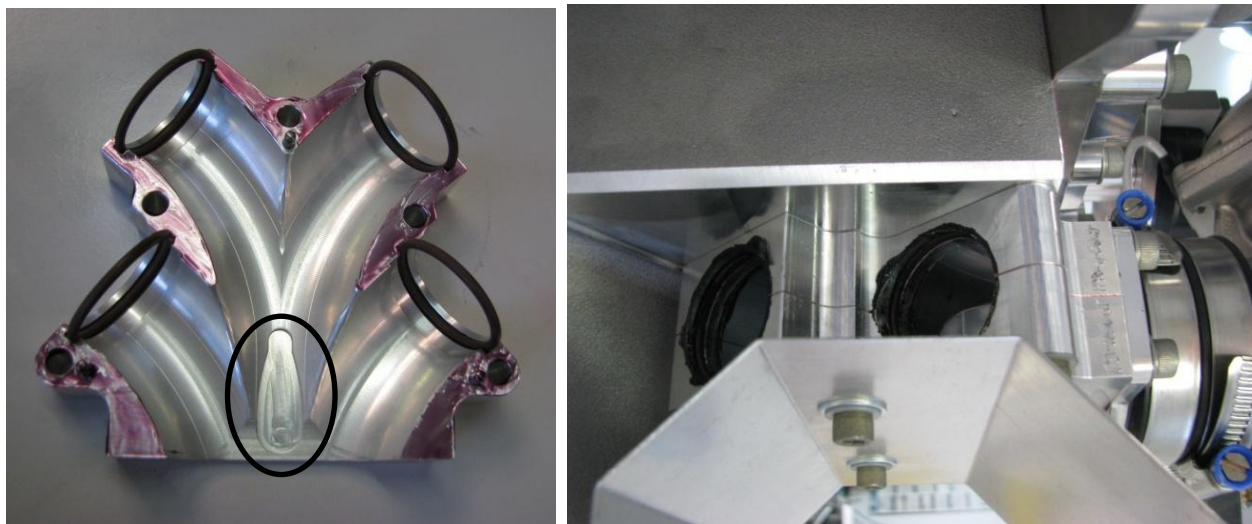

Figure 185 – Induction Manifold Installation
- Fit the diffuser(s) inside the plenum chamber halves. 2200 and most 3300 engines both use an “airfoil” diffuser shaped as circled in Figure 185 (Left). Later 3300 engines use two round diffusers.